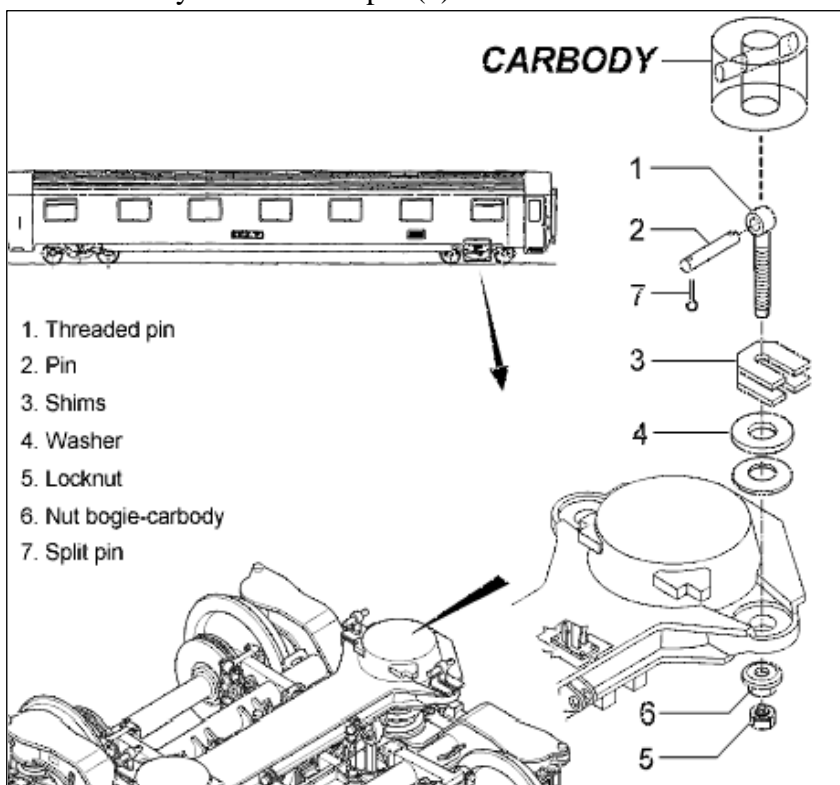

Fig. 2.5 Disconnection of The Bolster Beam
Unscrew the locknut (5 - Fig. 2-5) and the nut linking body and bogie (6). The bogie is disconnected from the car body. When the car body is lifted, check that washers (4) and shims (3) remain on the bolster beam. Items (1), (2) and (3) remain attached to the car body: in order to remove them, extract the split pins (7), remove the pin (2) and finally the threaded pin (1).